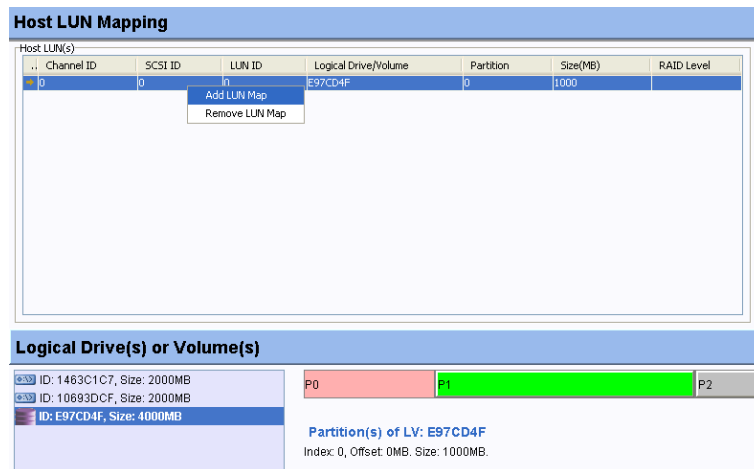

Fig. 10.2 Selecting the Host Channel ID Number
2. The Host LUN Mapping window should appear on the right. Right-click on the Host LUN(s) sub-window to display command menu as shown in *Figure 10.2*. Bosch's control-
1. Follow the steps listed in *Section 10.1 Accessing the LUN Map Table* above to access the LUN Map Setting window shown in *Figure 10.2*.